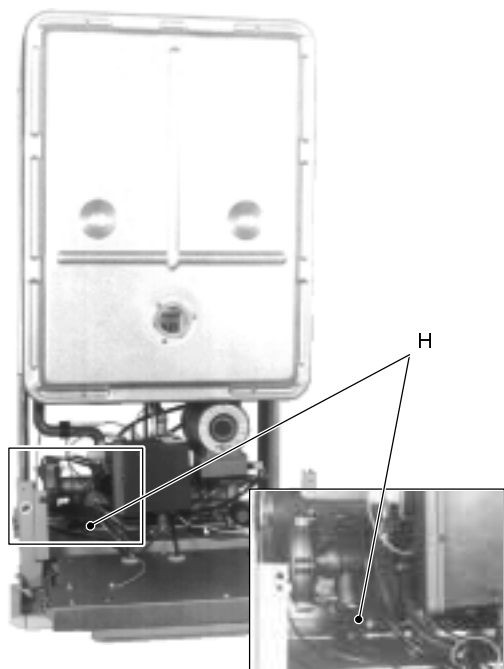

fig. 10
- 2 Open the draining tap *H* (fig. 10) until the boiler is completely emptied.